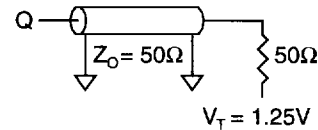

Figure 1
Output load	See Figures 1 and 2
- Test conditions as specified with the output loading as shown in Figure 1 unless otherwise noted.